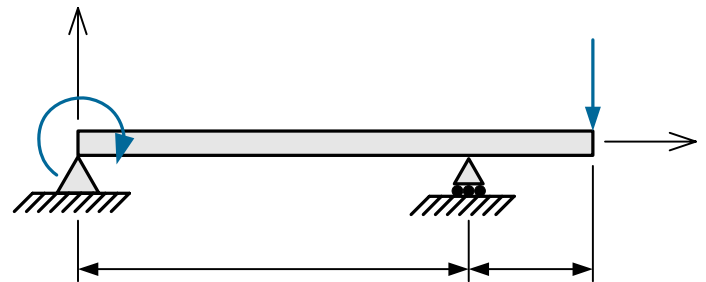

Figure 4
4. A steel beam with a total length of 8 m is loaded as illustrated by Figure 4. A clockwise moment of 18 kN·m ( $M_0$ ) is applied at support  $A$  while a 15 kN vertical load ( $P$ ) acts on the overhang at  $C$  (25 pts).